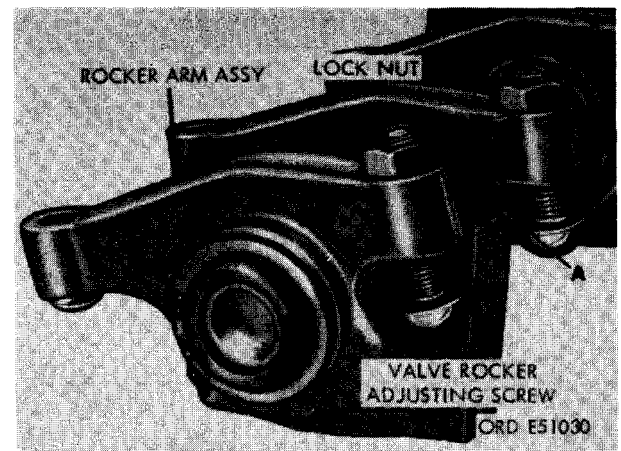

FIGURE 182. REMOVING OR INSTALLING VALVE ROCKER ARM ADJUSTING SCREW.
- (4) Figure 182. (A) Remove valve rocker adjusting screw lock nut. (B) Turn rocker arm adjusting screw clockwise to remove it from rocker arm assembly.